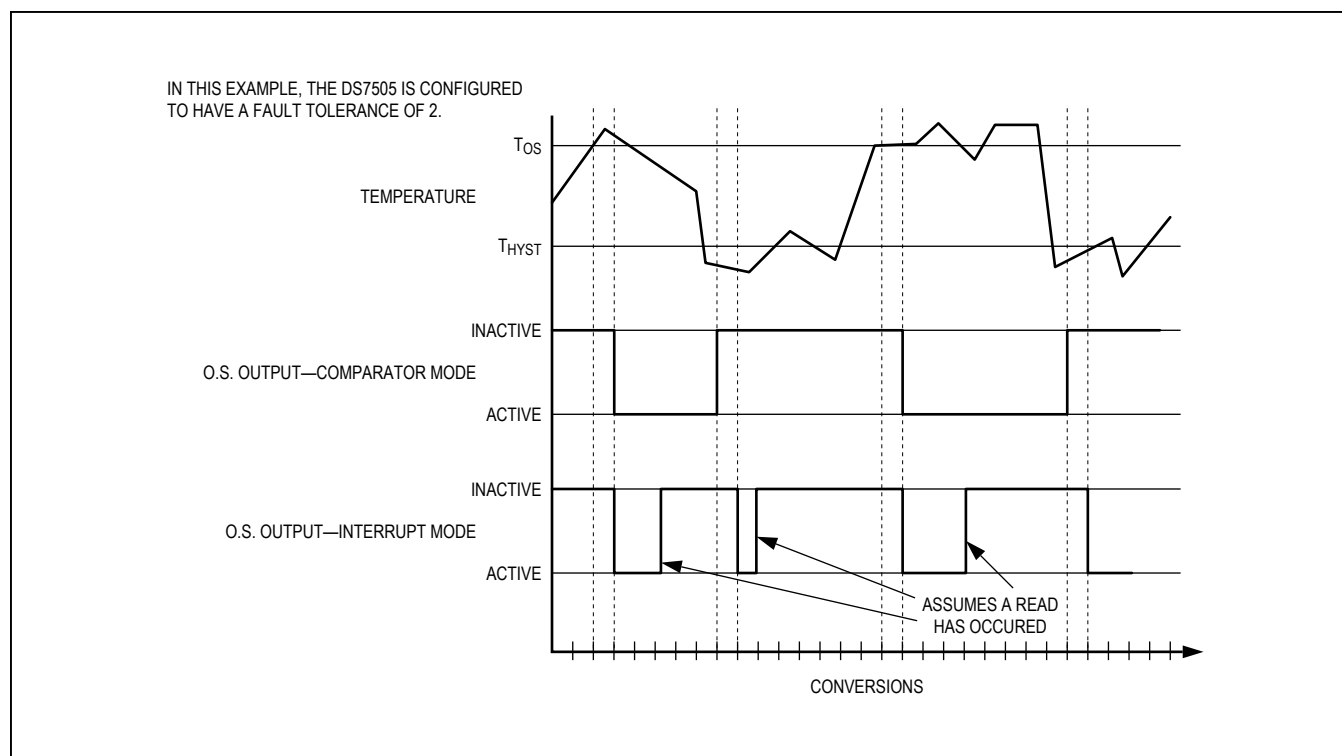

Figure 4. O.S. Output Operation Example
When the thermostat is in comparator mode, O.S. can be programmed to operate with any amount of hysteresis. The O.S. output becomes active when the measured temperature exceeds the T_{OS} value a consecutive number of times as defined by the F1 and F0 fault tolerance (FT) bits in the configuration register. O.S. then stays active until the first time the temperature falls below the value stored in T_{HYST} . Putting the device into shutdown mode does not clear O.S. in comparator mode. Thermostat comparator mode operation with FT = 2 is illustrated in Figure 4.
measured temperature falls below the T_{HYST} value a consecutive number of times equal to the FT value. Again, O.S. can only be cleared by putting the device into shutdown mode or reading any register. Thus, this interrupt/clear process is cyclical between T_{OST} and T_{HYST} events (i.e., T_{OST} , clear, T_{HYST} , clear, T_{OST} , clear, T_{HYST} , clear, etc.). Thermostat interrupt mode operation with FT = 2 is illustrated in Figure 4.